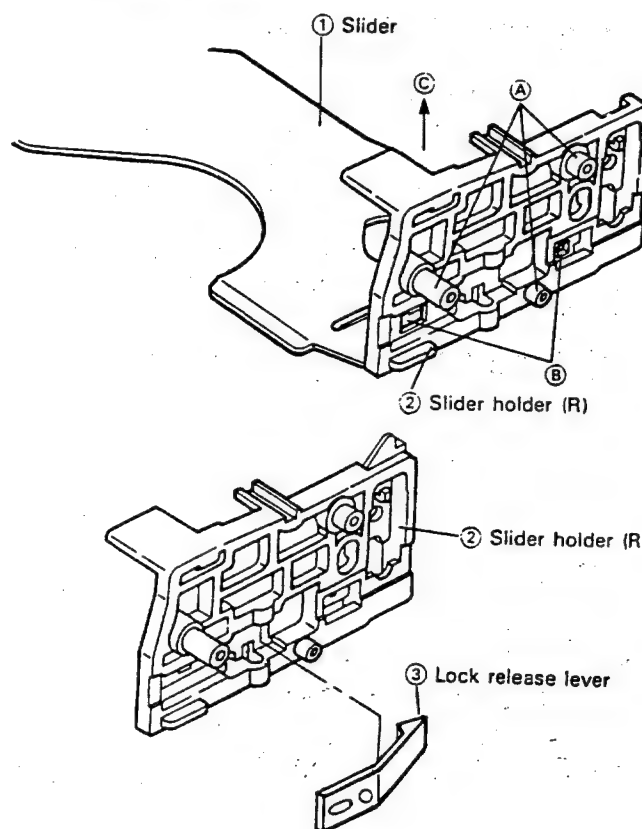

Figure 1-7.
• Removal (Fig. 1-7)
1. Turn the coupling clockwise until the slider **①** comes to the cassette down position.
2. Slightly widen the cassette housing frames (R) and (L) to unhook the parts **A** of the slider holders (R) and (L) off the grooves of the above frames.
3. Press the catch **B** on the slider holder (R) **②**, and let the slider **①** go off this holder in the direction of arrow **C**.
4. Take the lock release lever ass'y **③** out of the slider holder (R) **②**.
● Reassembly (Fig. 1-7)